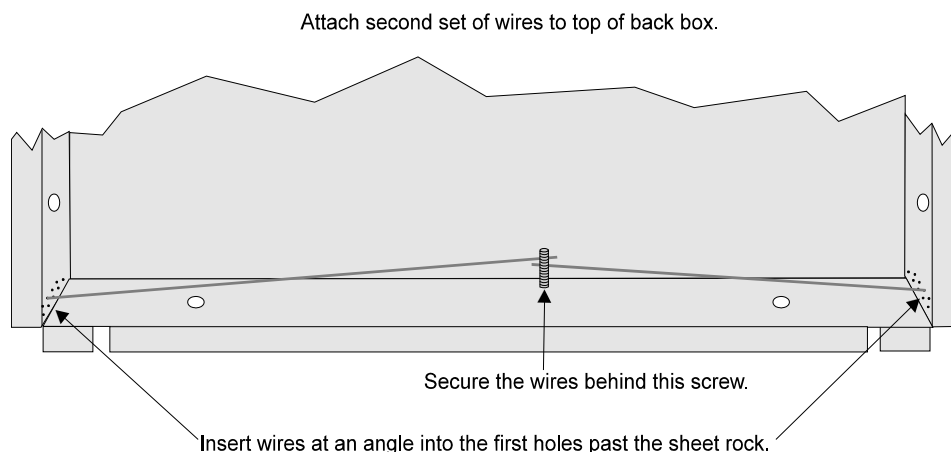

Figure 4.14 Flush Mounting the Back Box
3. Fit the annunciator back box into the hole and stabilize with mounting wires. Angle the mounting wires into the first hole past the sheet rock. Secure the wires behind the screws as shown in Figure 4.14. When all four wires are in place, the back box should fit snugly into the hole in the sheet rock.